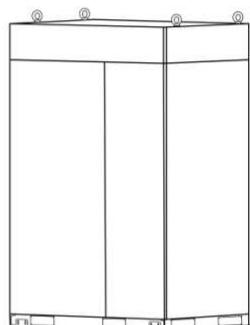

Figure.3
2. Insert the four eye bolts into holes on the top of the machine and then turn them clockwise until they are secured firmly. See the Figure.2 and Figure.3.
①